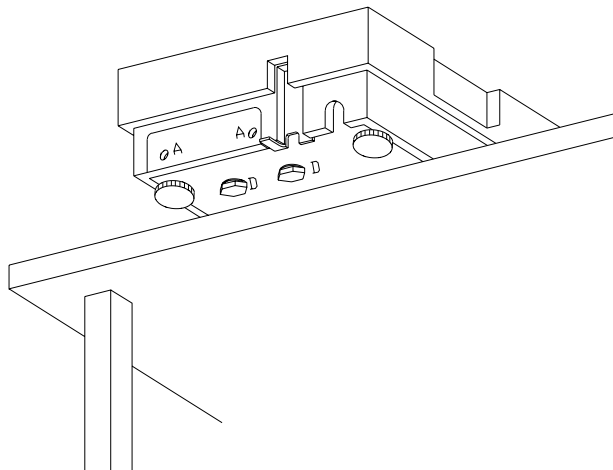

Figure 2. Installing the Battery Option.
1. Position the back of the scale so it overhangs the rear of a work bench (see Figure 2).
2. Remove the (2) Phillips head screws (marked "A" in Figure 2) and the rear panel.
3. Next remove the (2) hex head screws and washers marked "D" in Figure 2.
6. Replace the (2) hex head screws and washers marked "D" in Figure 2.
7. Before replacing the rear panel, remove the pre-cut knockout for the power switch with a hammer and screwdriver. Mount the rear panel onto the scale with the (2) Phillips head screws (marked "A" in Figure 2).